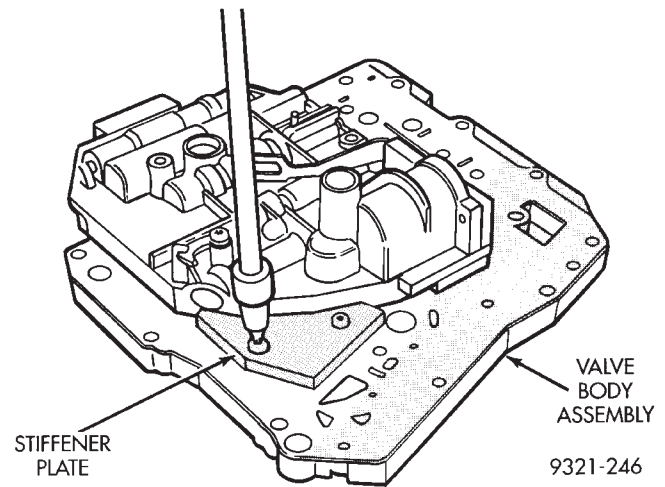

Fig. 69 Stiffener Plate Location
- (4) Remove valve body stiffener plate (Fig. 69).